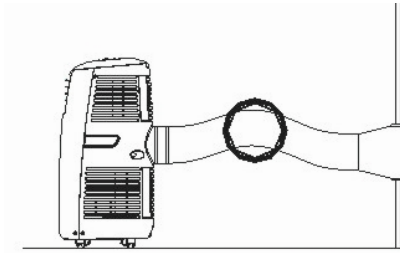

FIG.11
- Avoid kinks and bends in the exhaust hose. These can cause expelled moist air to accumulate, resulting in overheating and unexpected shut-offs (fig. 11 and 12).